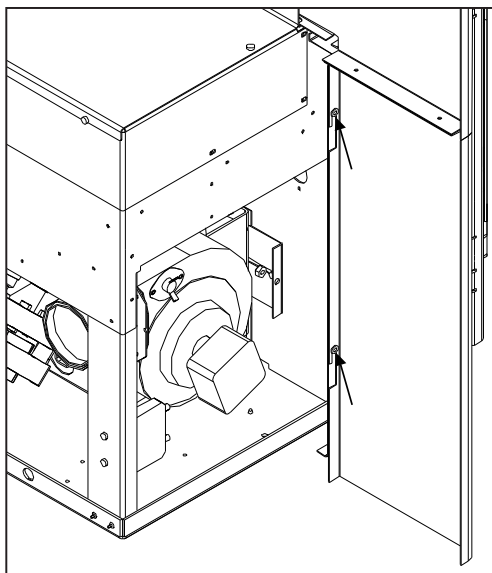

Figure 41: Installed Surround Panel.
2. Place the assembled surround panel around the stove; align the slots with the screw heads. Push surround in then down to engage the surround slots on the mounting screws (see Figure 41). Make sure the top surround panel sits flat behind the stove top.